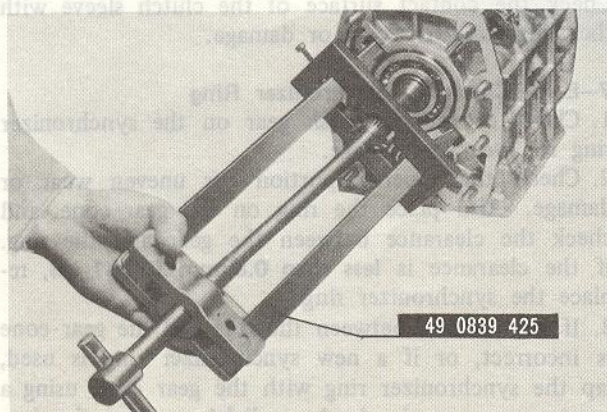

Fig. 7-13 Removing main drive shaft bearing
28. Using the **puller** (Part No. 49 0839 425A) shown in Fig. 7-13, remove the main shaft bearing.